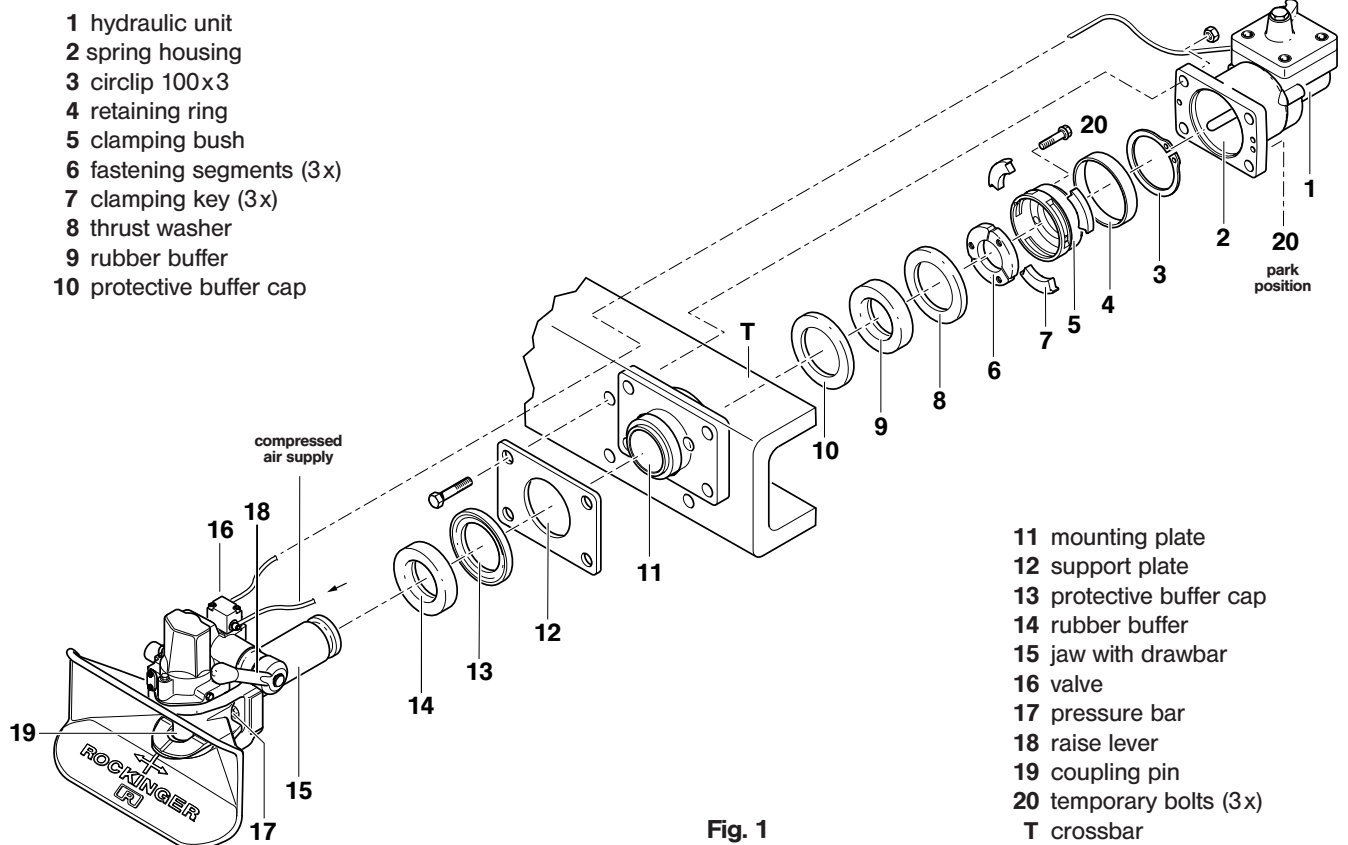

Fig. 1
1.1 Before installation (see Fig. 1)
- ① support plate
- ② mounting plate
- ③ spring housing
- Unscrew 3 temporary bolts (20) again and withdraw clamping bush (5), remove 3 fastening keys (6).
- Withdraw thrust washer (8), rubber buffer (9), protective buffer cap (10) from jaw with drawbar (15).
- Withdraw mounting plate (11) with support plate (12) and protective buffer cap (13) from drawbar (15), while rubber buffer (14) remains on drawbar (15)
1.2 Installation (see Fig. 1)
- Attach mounting plate (11) preliminarily from inside to crossbar (T) and support plate (12) from outside to crossbar (T) using 2 of 4 mounting screws (please refer to p.3 for size and grade).
- Fit protective buffer cap (13) onto mounting plate (11) with concave side towards rubber buffer (14).
- Slide jaw with drawbar (15) and rubber buffer (14) into mounting plate (11):
- Fit protective buffer cap (10) onto mounting plate (11) with concave side towards rubber buffer (9).
- Slide rubber buffer (9) onto drawbar (15).
- Slide on thrust washer (8) with concave side towards rubber buffer (9).